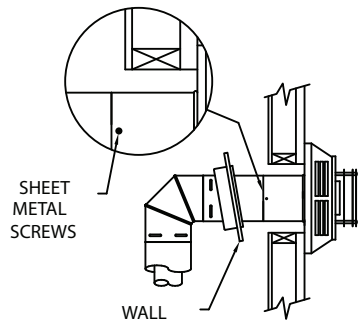

Figure 8
(1) The four wood screws provided should be replaced with appropriate fasteners for use on brick, concrete, block, or other types of sidings.
(2) For buildings with vinyl siding or other surfaces, the Vinyl Siding Standoff or Counter Flashing is available.
Step 5. Before connecting your horizontal Pipe Sections to the Horizontal Termination Cap, slide the Wall Thimble Cover over the Pipe Section nearest the interior side of wall (**Fig. 8**).